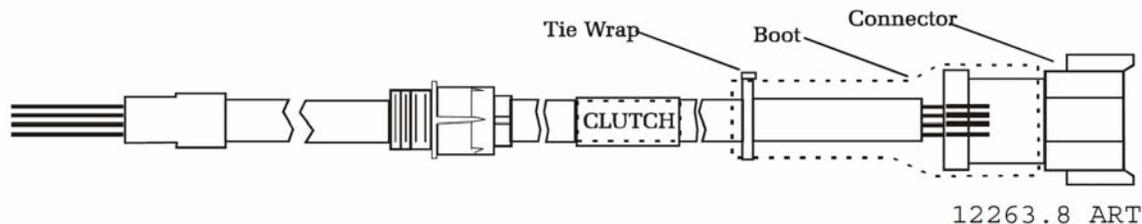

Figure 4-17: Clutch Harness Cable
- G Connect the two-conductor cable to PB2, red lead to the terminal labeled (1) and yellow lead to the terminal labeled (2), as indicated on Processor Circuit board Termination Points, Figure 4-17: Clutch Harness Cable.